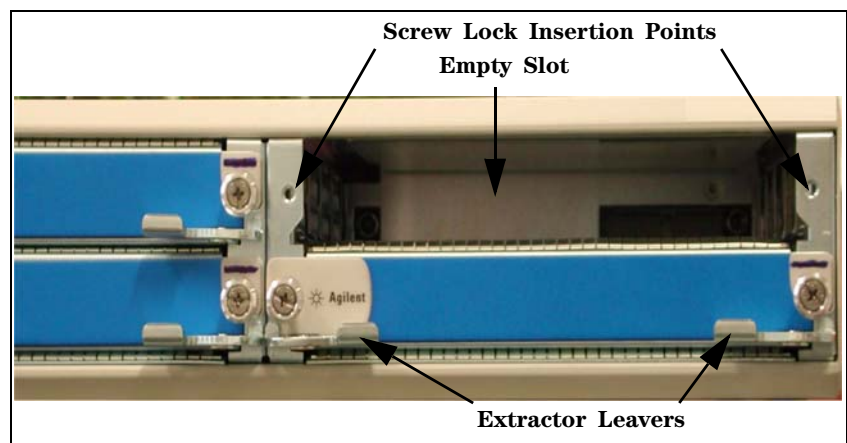

Figure 1 Chassis with an Empty Slot
- Figure 1. Chassis with an Empty Slot 10
Figure 1 shows the Chassis with an empty slot. The following procedure shows you how to attach an I/O module to the chassis.